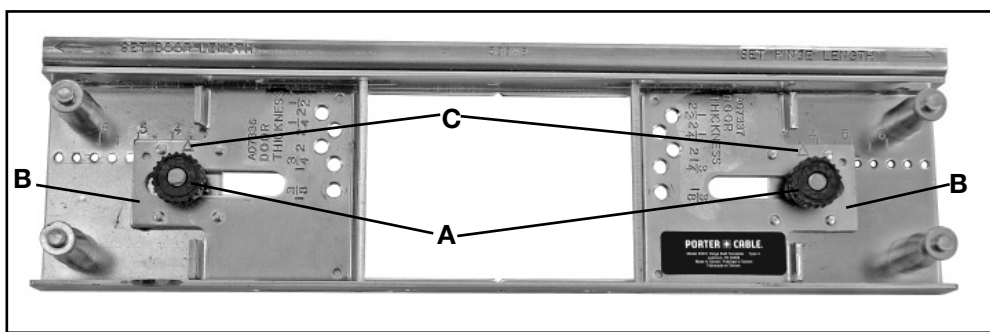

Fig. 1
- On each template section, loosen thumb nuts (A) Fig. 1 and adjust hinge size plates (B) so the triangle indicators (C) align with the 3 1/2" marks on the template body. Adjust all template sections in the same manner. Be sure pin on bottom of hinge size plate engages hole in template body. Tighten thumb nuts (A) securely.